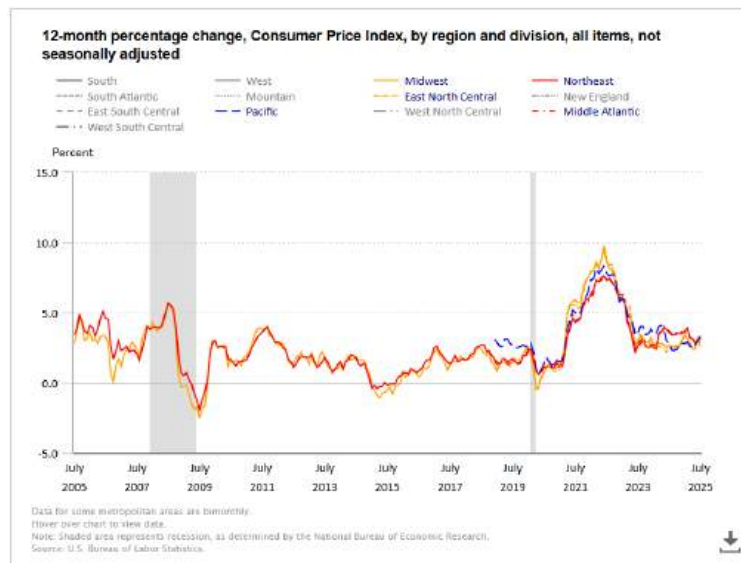

Figure 1: Image Credit <https://www.bls.gov/charts/consumer-price-index/consumer-price-index-by-region.htm>
The Federal Reserve enacts policy with **the goal of keeping inflation at 2%**, measured by the Consumer Price Index shown in Figure 1 above. **If inflation is significantly below the inflation target, the Federal Reserve may cut interest rates** to spur economic activity and bring inflation back to the 2% target. **When inflation exceeds target inflation, the Federal Reserve will react and adjust the interest rate higher** in an attempt to check inflation.
6. **(5 Points)** What fundamental mode of behavior is being described in the previous description and shown in Figure 1 above? **(5pts oscillation, 3pts S shaped with overshoot, 2pts goal seeking)**